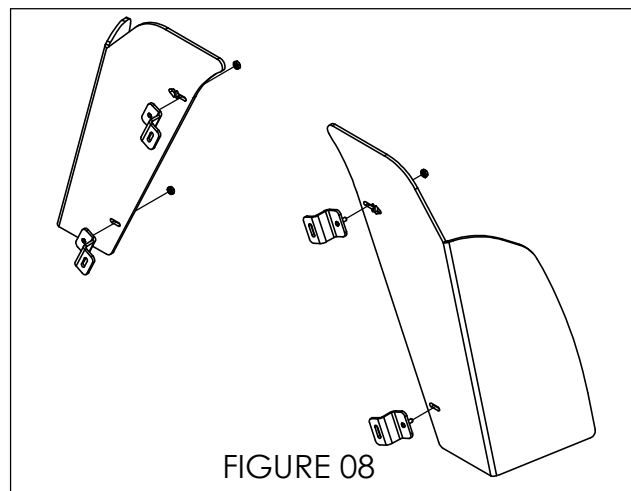

FIGURE 08
14. ATTACH THE UPPER WING BRACKETS TO THE UPPER WINGS USING #10-32 KEEPER NUTS (FIGURE 08).